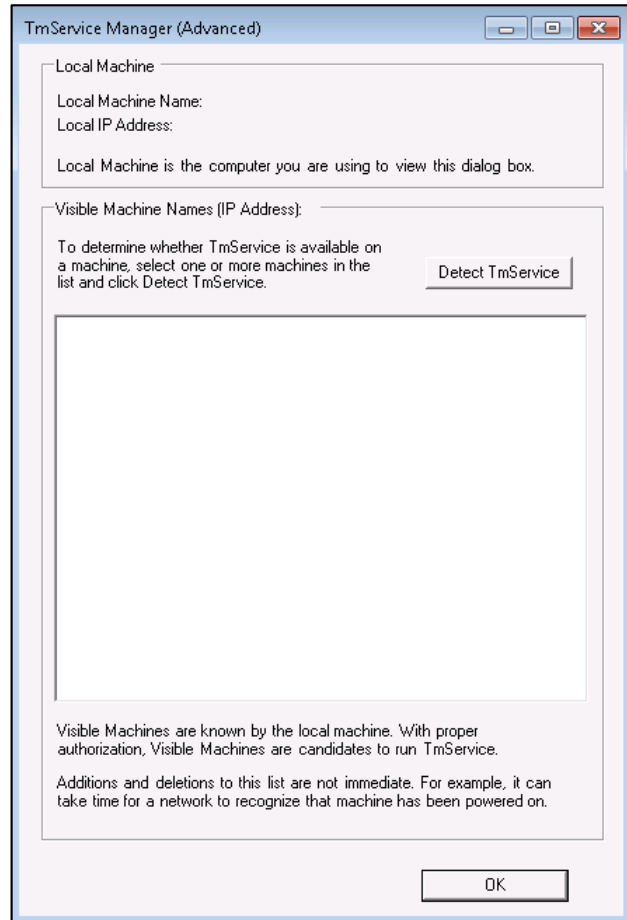

Figure F-2 TmService Manager (Advanced) Dialog Box
6. Click *Advanced* to open the *TmService Manager (Advanced)* dialog box (Figure F-2). The *Visible Machines* list displays computers and their IP addresses that are accessible to the local machine over the network.